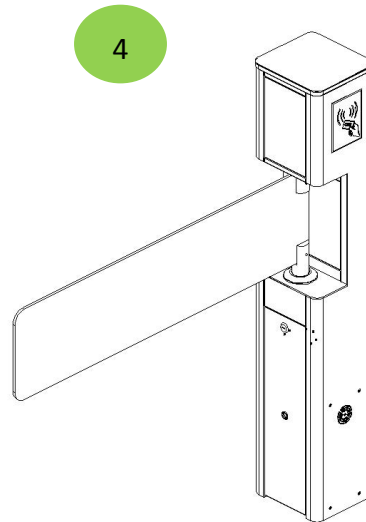

Figure 2-4D
8. Install the barrier arm(glass baffle or U-shaped stainless steel pipes), as shown in Figure2-4D.